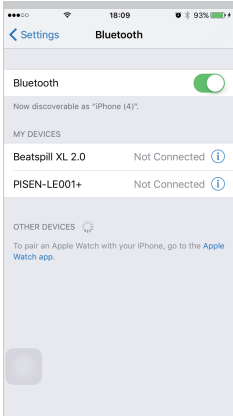

Fig.1
2.Turn on your phone’s “bluetooth” (Fig 1)